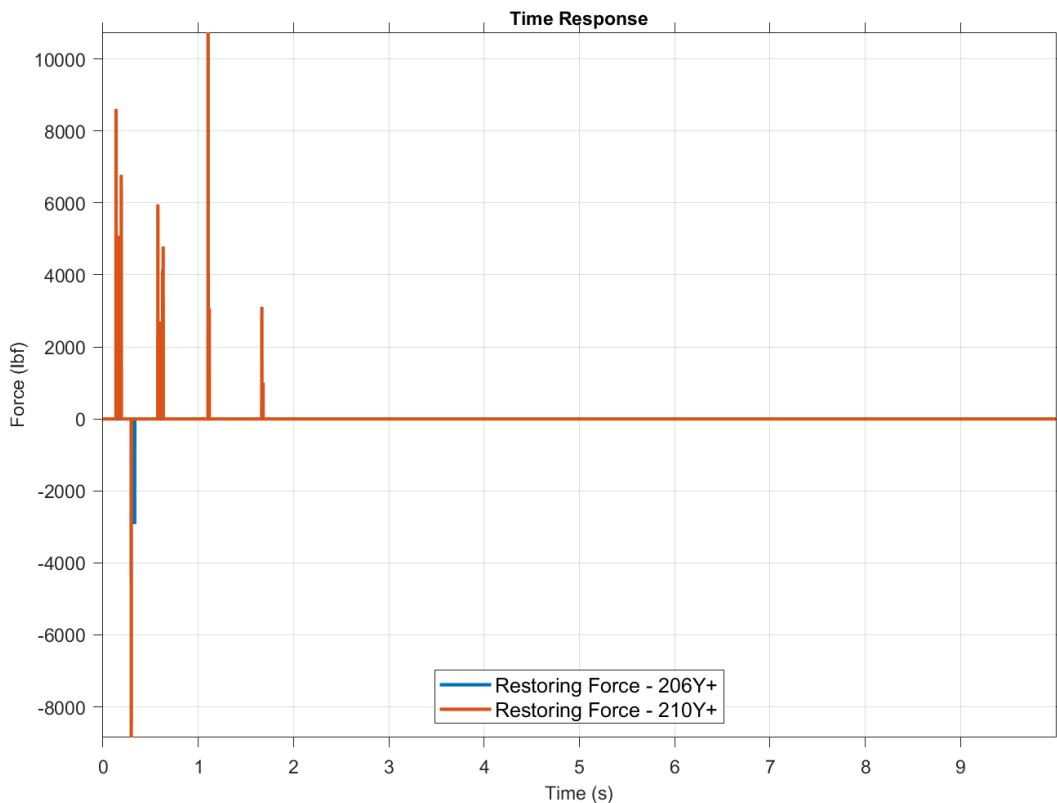

Figure 4-137. The restoring forces indicate the time ranges of the impacts.
12. Display the restoring force applied to the monitored limit DOF to determine the times and magnitudes of the impact forces for both limit DOF. Open the XY plot dialog by clicking the **Plot XY...** button. In the UIPLOT dialog, read in the restoring force function file “Displacement Limit_nonlinearForce.fcn” from the *File, Load File* menu. Plot both restoring forces. Figure 4-137 shows the restoring forces, which indicate five separate impact time ranges for DOF 210Y and one for DOF 206Y.